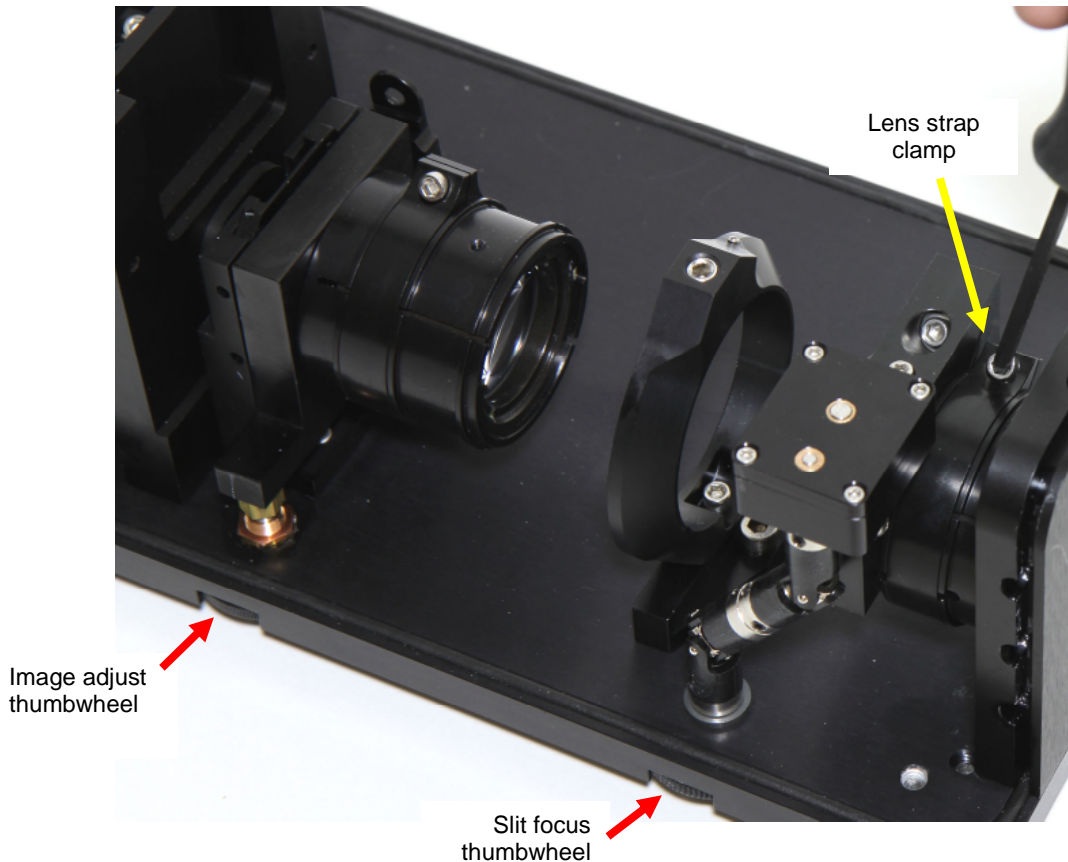
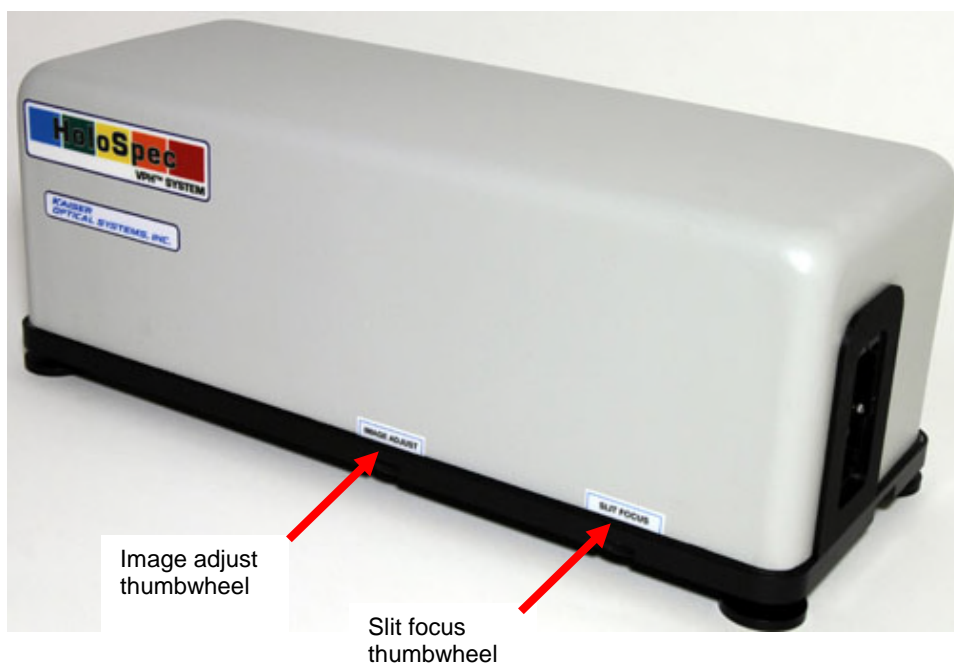

Figure 4-8. Loosen or tighten the lens strap clamp.
Figure 4-9. Locations of the image adjust thumbwheel and the slit focus thumbwheel.
- 4** Loosen the lens strap clamp (if necessary) (Figure 4-8).
- 5** Adjust the pre-filter section focus by turning the slit focus thumbwheel (SF) to minimize the spectral line width.
- 6** Tighten the lens strap clamp to 25 inch-pounds (Figure 4-8). Don't over tighten.
- 3 Loosen the lens strap clamp (if necessary) (Figure 4-8).
- 4 Adjust the focus by turning the camera focus thumbwheel (SF) to minimize the spectral line width.
- 5 Tighten the lens strap clamp to 25 inch-pounds (Figure 4-8). Don't over tighten.
The aperture input adapter is intended to be used with user-supplied collection optics. Before performing this procedure, use the image adjust thumbwheel (Figure 4-8 and Figure 4-9) to adjust the user-supplied collection optics so that the sample is imaged approximately into the plane of the exterior surface of the adapter support plate, at the center of the aperture in the aperture input adapter. Small errors in the axial and lateral positions of the image of the sample can be
- 4 Loosen the lens strap clamp (if necessary) (Figure 4-8).
- 5 Adjust the slit focus thumbwheel (Figure 4-8) until the sample is focused in the detector. Note that because the image of the sample will be dispersed in the horizontal direction, the spectrograph should be focused so that the vertical extent of the image of the sample is minimized.
- 6 Tighten the lens strap clamp (if necessary) (Figure 4-8).
- 8 Adjust the image adjust thumbwheel (Figure 4-8) until the signal level observed on the detector is maximized.